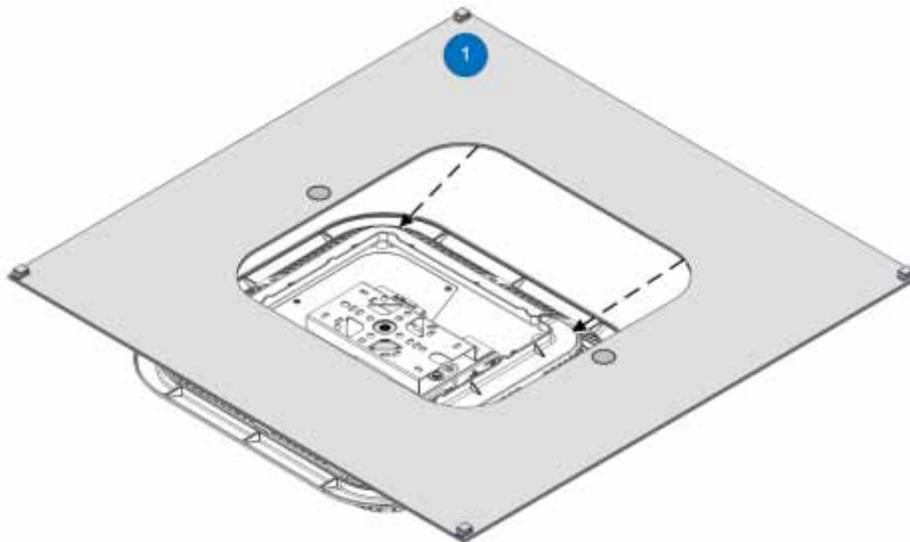

Figure 5-59. Lowering Plate onto RAU
6. Position the RAU on a flat surface with the mounting bracket facing upwards and lower the plate (Item 1) onto the RAU, as shown in Figure 5-59.